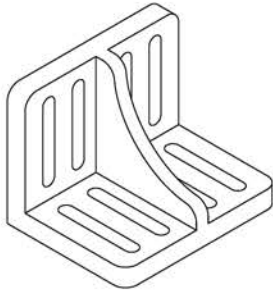

Fig. 8.30 An isometric drawing of the angle plate on which exercises 6 and 7 are based
- 7. Construct an isometric drawing of the angle plate shown in Figs 8.30 and 8.31.